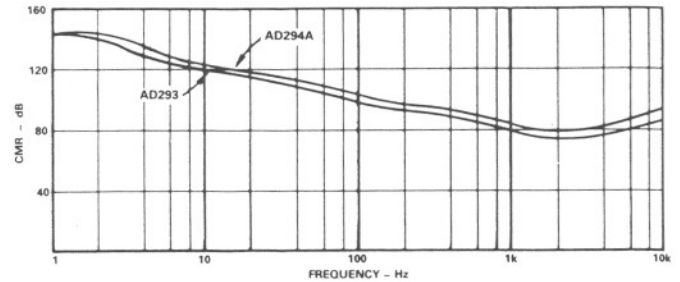
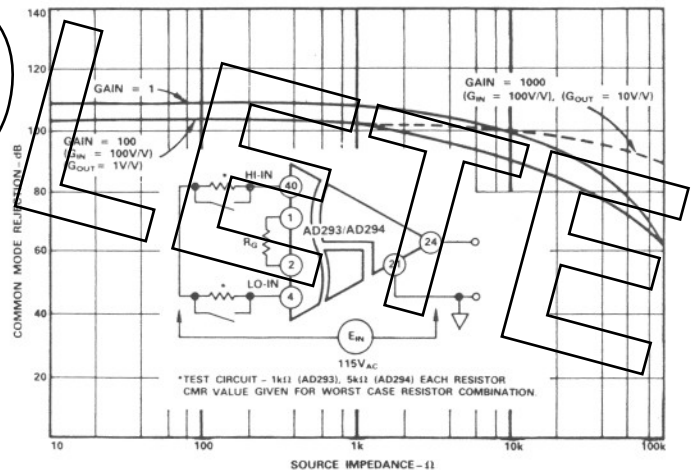

Figure 6. Typical AD293/AD294 - CMR vs. Frequency
Figure 7. Typical AD293/AD294 - CMR vs. Source Impedance
**Common-Mode Rejection:** Input-to-output CMR is dependent on source impedance imbalance, input signal frequency and amplifier gain. CMR is rated at 60Hz and  $1k\Omega$  (AD293)/ $5k\Omega$  (AD294) source impedance imbalance at a gain of 1V/V. Figure 6 illustrates the CMR vs. frequency characteristics for the AD293/AD294. CMR approaches 144dB at dc with source impedance as high as  $1k\Omega$  (AD293)/ $5k\Omega$  (AD294). Figure 7